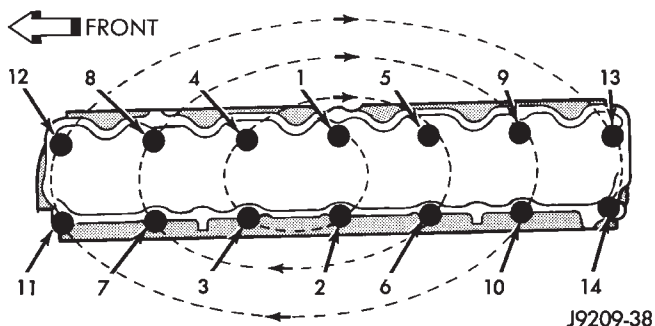

Fig. 36 Engine Cylinder Head Bolt Tightening Sequence
(3) With bolt No.14 held in place (tape around bolt), install the engine cylinder head over the same dowels used to locate the gasket. Remove the tape from bolt No.14.
(4) Coat the threads of stud bolt No.11 with Loctite 592 sealant, or equivalent.
(5) Tighten the engine cylinder head bolts in sequence according to the following procedure (Fig. 36).